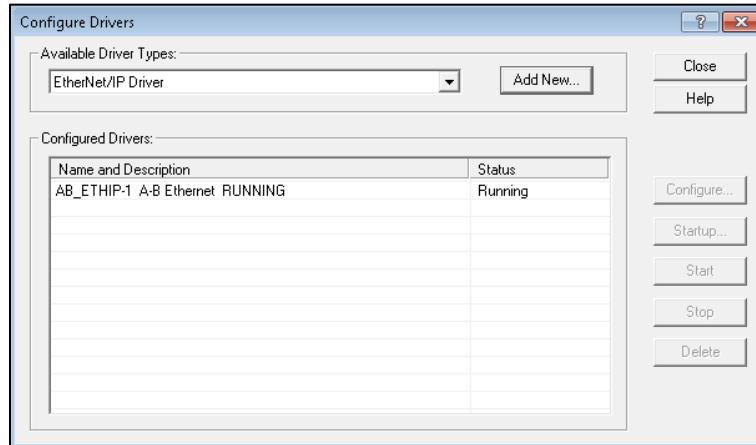

Figure 20: Configured Drivers List View
- **Figure 20** shows the new driver status as **Running** in **Configured Drivers** list view.